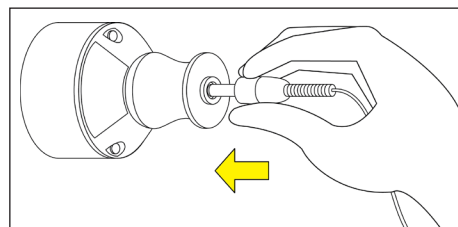

Figure 6. Plug in the ac adapter pin.
- (a) Plug the pin of the ac adapter into the opening on the power module. See Figure 6.